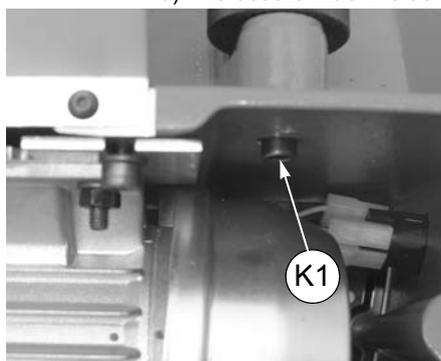

Fig. 23
*** FOR VERSIONS WITH BELT TIGHTENERS (P1) (Fig.23)**
**** FOR VERSIONS WITH BELT TIGHTENERS (P1) (Fig.23)**